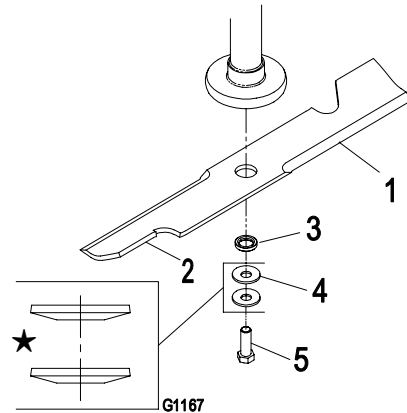

Figure 16
1. Install the blade onto the spindle shaft (Figure 16).
2. Hold the blade end using a rag or thickly-padded glove (or place a wrench on the top sheave nut). Install the bushing, two spring disk washers (cupped side toward the blade) and blade bolt (Figure 16).